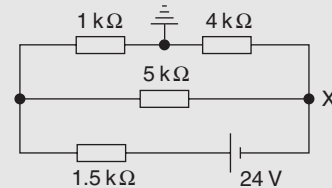

Figure 5.36
**Problem 15.** For the circuit shown in Fig. 5.36, calculate (a) the voltage drop across the  $4 \text{ k}\Omega$  resistor, (b) the current through the  $5 \text{ k}\Omega$  resistor, (c) the power developed in the  $1.5 \text{ k}\Omega$  resistor, (d) the voltage at point X w.r.t. earth, and (e) the absolute voltage at point X.